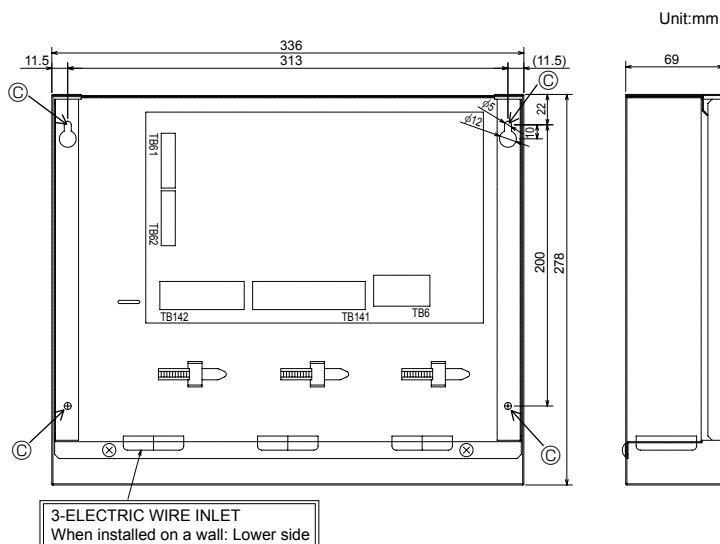

Fig. 2-2
2.3. Installing the FTC2 unit (Fig. 2-2, Photo. 2-1)